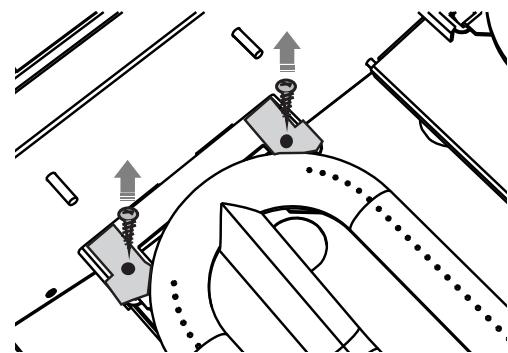

Fig. 30
- ① Ensure the burners have cooled and the gas supply has been turned off at the cylinder valve or shut-off valve.
- ② Remove the grill grates, then lift out the radiant trays and grease shields .
- ③ Using a Phillips screwdriver, unscrew the clamps holding the burners in place on either side (Fig. 30). Put the clamps and screws safely aside.
- ④ Grasp the curved section of the burner in the rear and gently pull up to release the securing tabs from the rear support bracket.
- ⑤ Move the burner slightly away from you so as to slide it out from the collector box and disengage the burner inlet from the injector inside the valve hole in the front.
- ⑥ Angle the burner sideways and lift out.